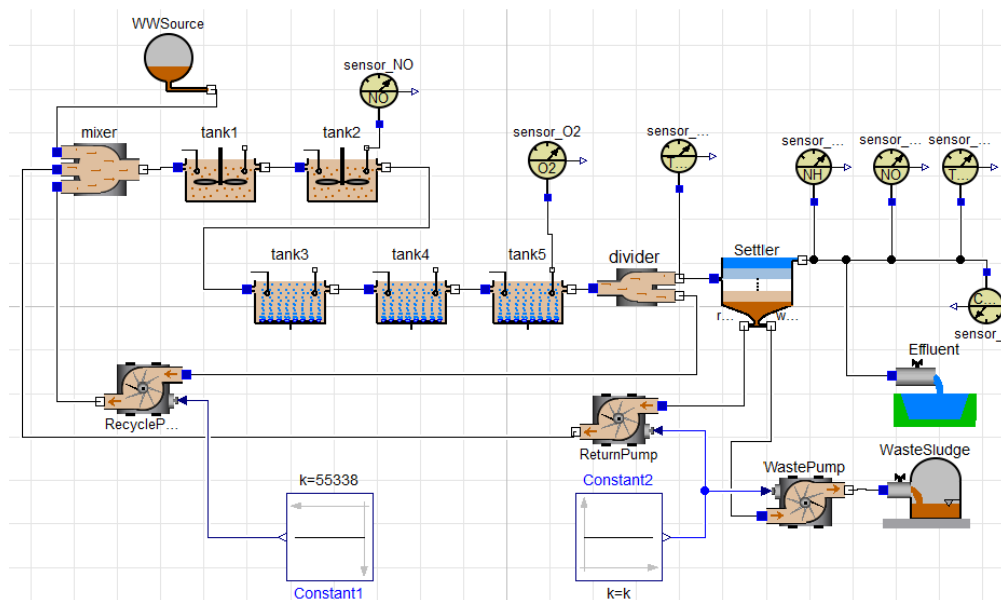

Figure 2: BSM1 Open-loop Dymola Implementation
- Develop a simulation model for the BSM1 benchmark in Dymola with the help of the WasteWater treatment package using the *ASM1/examples/BenchPlant* for the open-loop case (no active controllers). See Figure 2 as an example of an open-loop Dymola Implementation. The following changes to the ASM1 benchmark need to be made for adjustment:
- Compare your simulation results with those in the file "Verificationdata.pdf" using the component names as shown in Figure 2.
- Potential manipulated variables:  $Kla$  of tanks 3, 4 and 5 ( $tank3.Kla$ ,  $tank4.Kla$ ,  $tank5.Kla$ ), flowrates of the outer recycle loop ( $ReturnPump.Q$ ) and inner recycle loop ( $RecyclePump.Q$ ), see Figure 2.